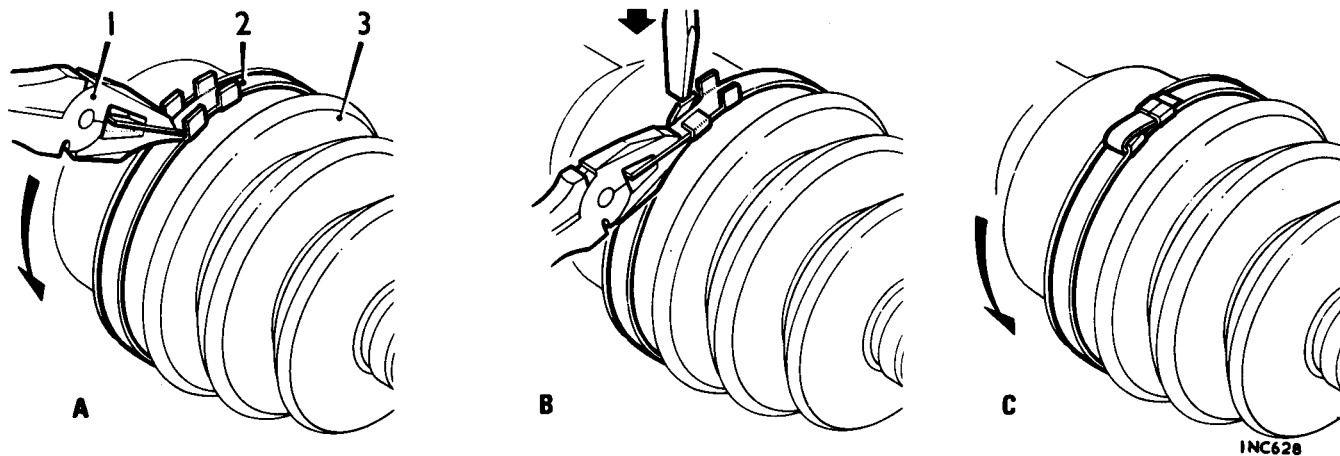

Fig. G.14
7. Secure the rubber boot to the drive shaft and constant velocity joint with the service clips using Service tool 18G 1099 and following the procedure detailed below and illustrated in Fig. G.14. If the service clips are not available see alternative method in operation 8.
- a. The clip must be fitted with the fold in the clip facing toward the forward rotation of the drive shaft, see Fig. G.14.
13. Fit the retaining clip using Service tool 18G 1099 following the procedure detailed below and illustrated in Fig. G.14.